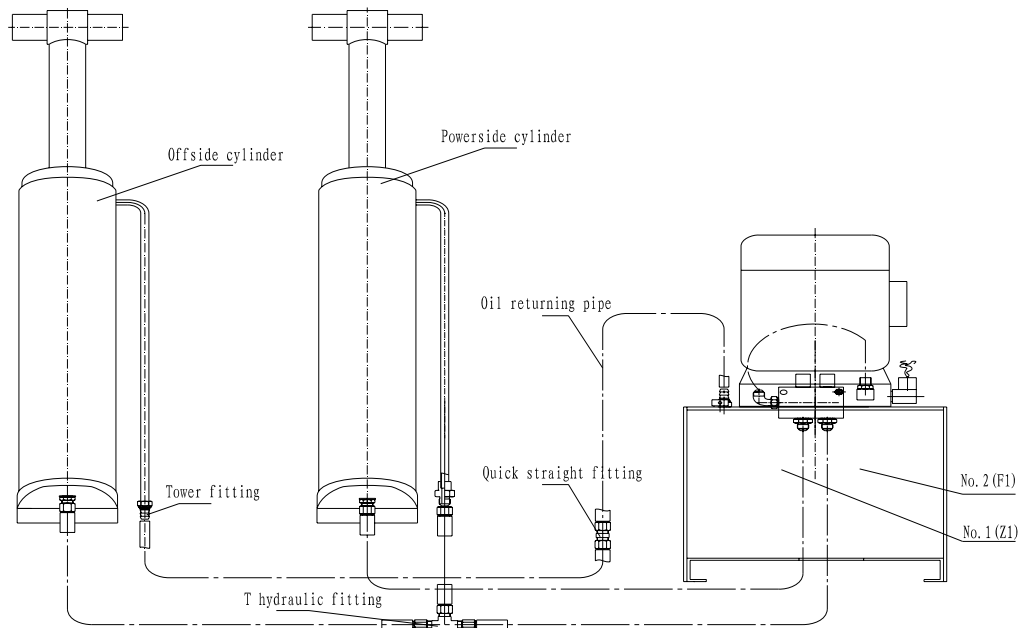

Fig9
- The hydraulic hose connection is illustrated in Fig.9. Connect the hydraulic hose NO1 to valve Z1 inside the control box and tighten the fitting. Check the status of the combined valve. (Main cycle is opened and the subsidiary is closed.)
- Connect other hoses according to Fig.9 and fasten all fittings so that no leakage will occur.